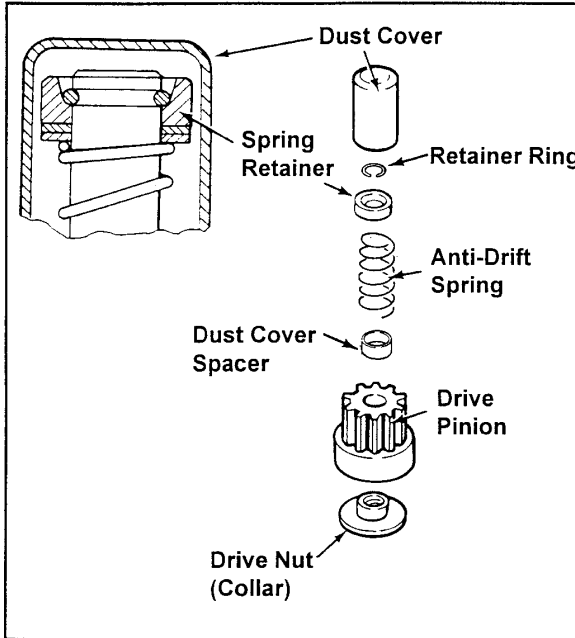

Figure 1. Drive Components, UTE "Bonded" Inertia Drive Starter.
1. The rubber dust cover has a molded lip on the inside that snaps into a groove in the dust cover spacer (See Figure 1). Turn the drive pinion clockwise until it reaches the fully extended position. While holding it in the extended position, grasp the tip of the dust cover with a pliers or vise grip and pull it free from the spacer.
3. Again referring to Figure 1, grasp the spring retainer and push it toward the starter, compressing the anti-drift spring and exposing the retaining ring.
5. Pull the spring retainer up around the retaining ring so the ring is seated in the recess in the top of the retainer (see Figure 1, sectional inset).